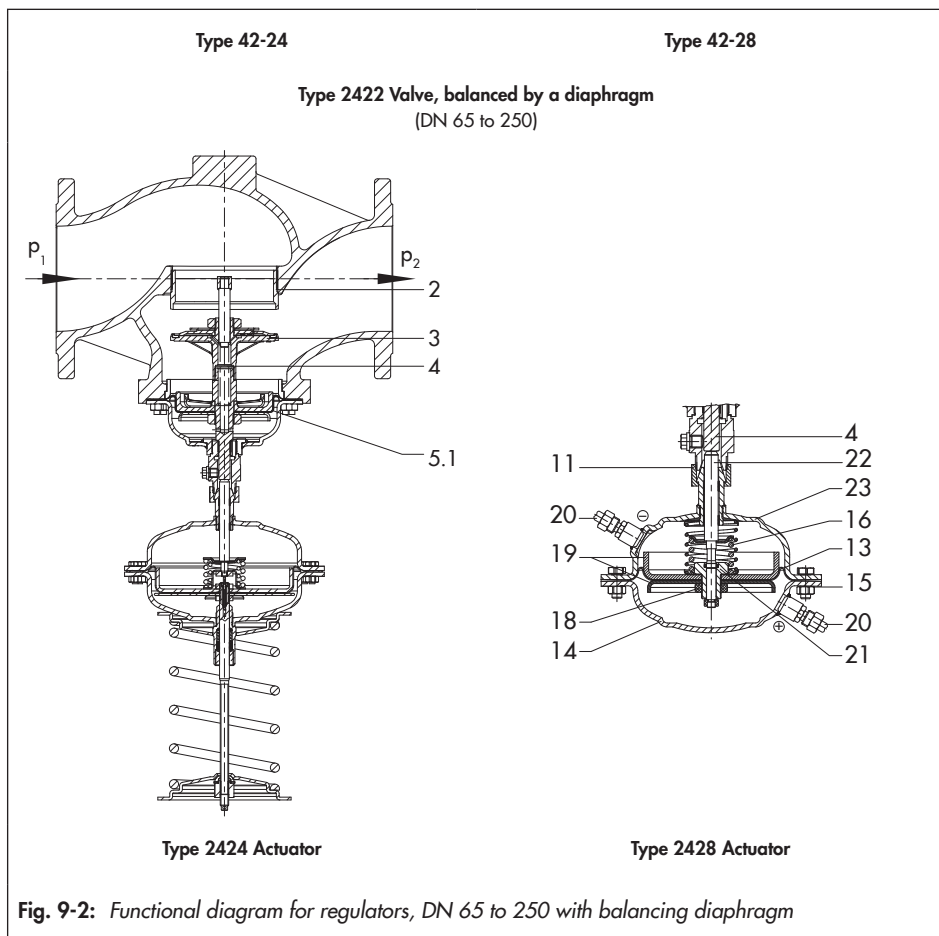

Fig. 9-2: Functional diagram for regulators, DN 65 to 250 with balancing diaphragm
Legend for Fig. 9-1 and Fig. 9-2
- See Fig. 9-1 and Fig. 9-2
→ See Fig. 9-1 and Fig. 9-2